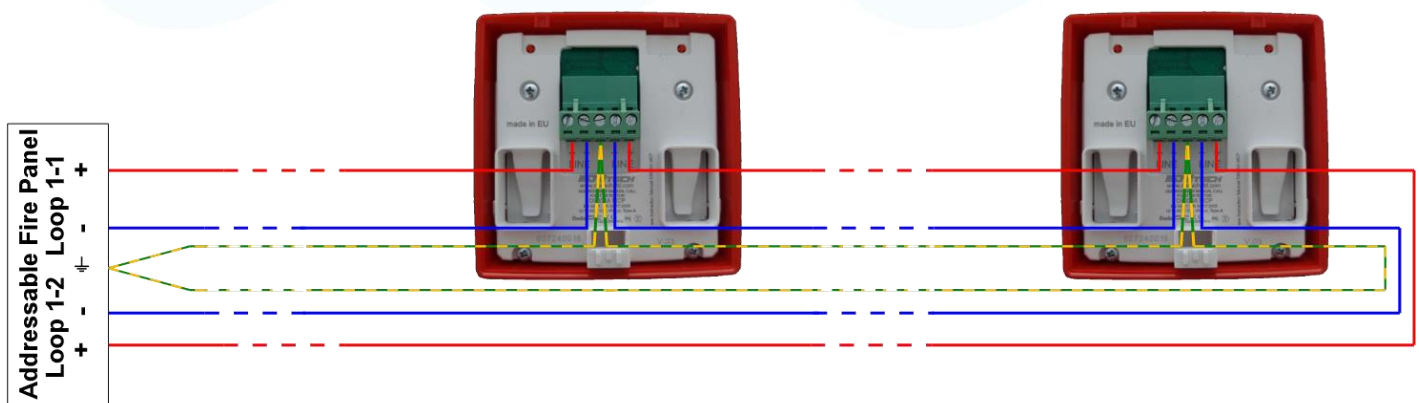

Fig. 1
3. Remove the terminal and connect the cables to the corresponding feathers in the wiring diagram (Fig. 1).